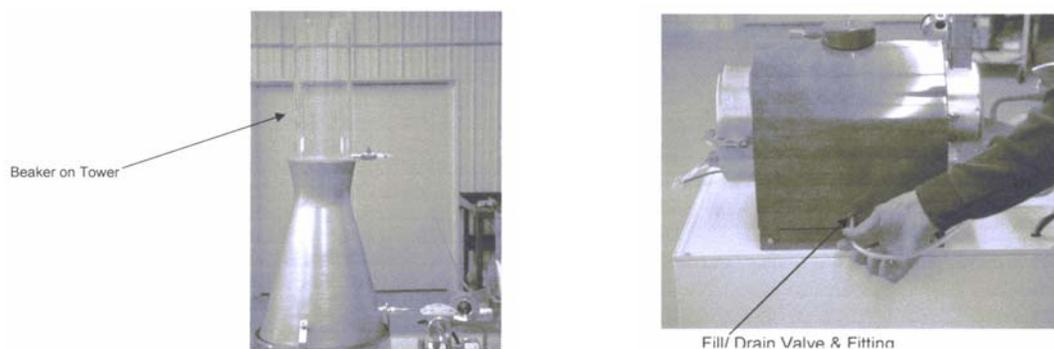

Figure 6: Picture of Backfilling the Boiler –
18. Fill the large graduated to 6 L. Put the tank on top of the condensing tower, and plug the hose end into the boiler as shown in Fig. 6.